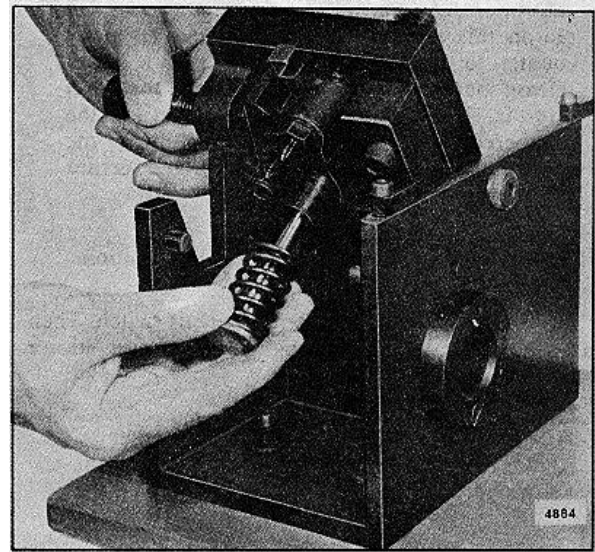

FIG. 19 Removing or Installing Plunger Follower, Plunger and Spring
3. Refer to Fig. 19 and remove the plunger follower, plunger and spring as an assembly.